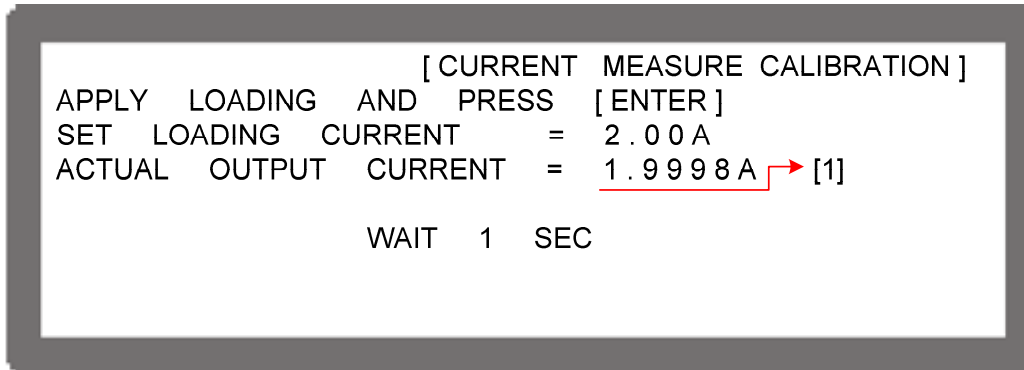

Figure 3-101
5. Then it will show Figure 3-101 and press “”. First, it will calibrate the low current range, the system outputs 5V voltage and then sets the loading current of Electronic LOAD to 2.00A. The cursor is stopped at position [1] as Figure 3-101 shows. Enter the current (4 digits after decimal point) read by Current Shunt (DVM) and press “” to confirm and wait for it to end.